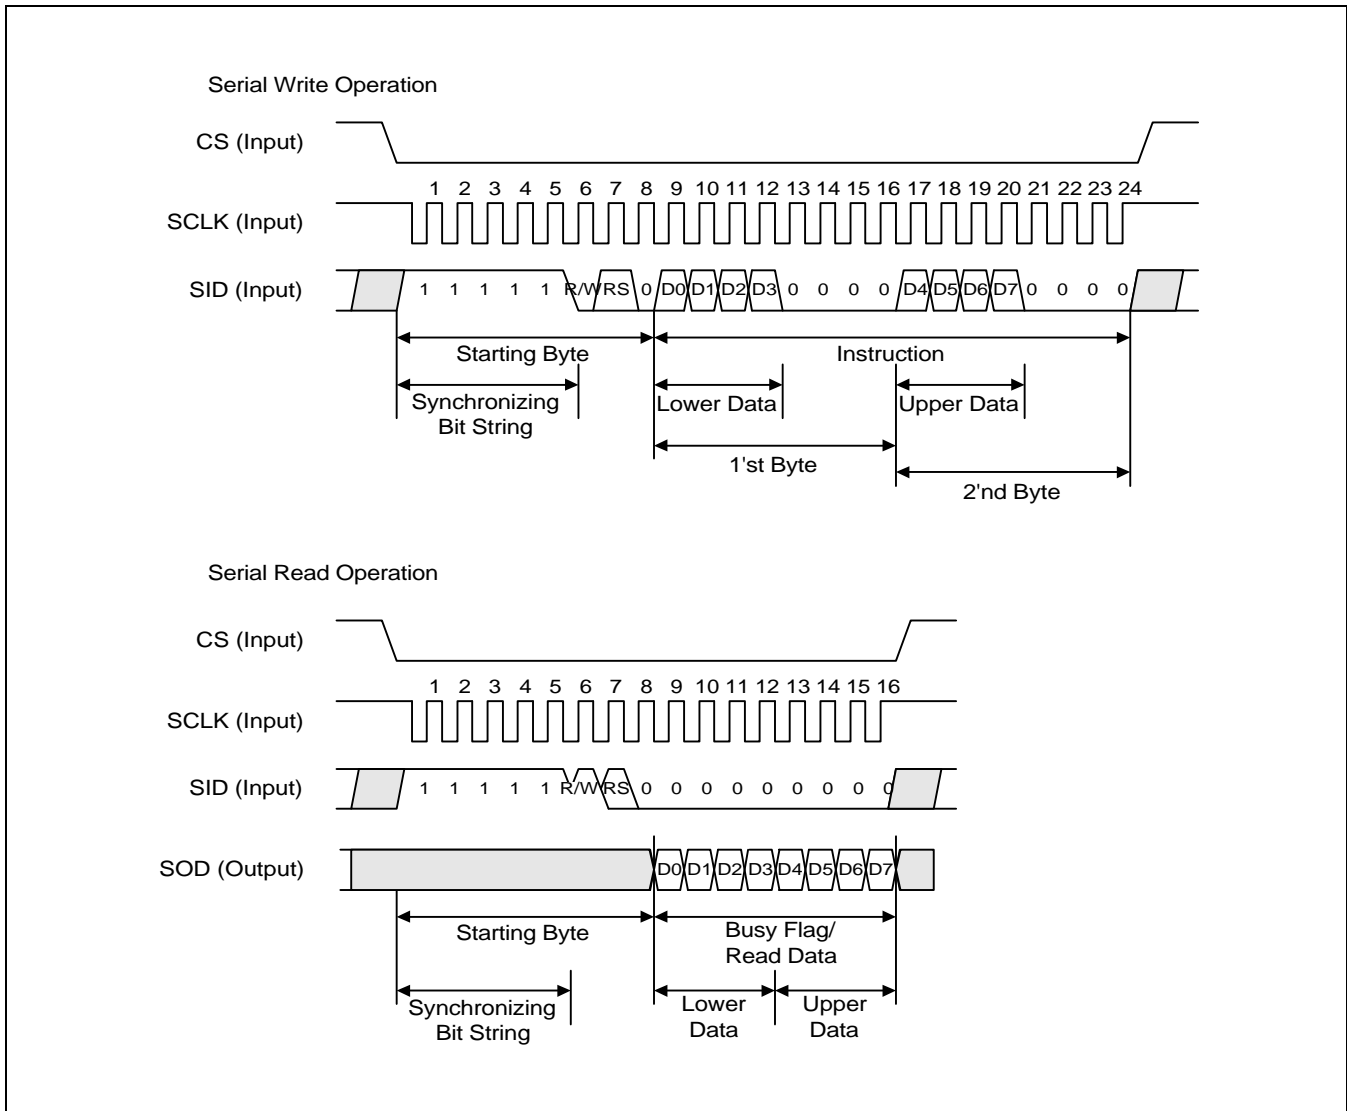

Figure 19. Timing Diagram of Serial Data Transfer
Before transfer real data, start byte has to be transferred. It is composed of succeeding 5 "High" bits, register read write control bit (R/W), register selection bit (RS) and end bit that indicates the end of start byte. Whenever succeeding 5 "High" bits are detected by S6A0073, it resets the serial transfer counter and prepares to receive next information. The next input data is the register selection bit which determines which register will be used, and read write control bit that determine the direction of data. Then end bit is transferred, which must have "Low" value to show the end of start byte. (refer to Figure 19, Figure 20)
(1) Write Operation (R/W = 0)